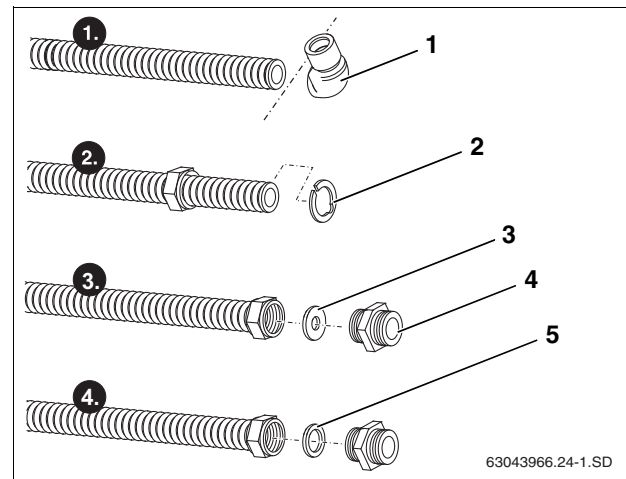

Fig. 53 Preparing the connection pipe
- Cut elbow (Fig. 53, [1]) from connection pipe using pipe cutters (Step 1).
- Separate one of the cuts of the split compression washer and bend it open. Slide over the first valley of the corrugated pipe and close it again (Fig. 53, [2]). The closed compression washer must be positioned evenly on the collar of the union nut once pulled forward.
- Place large diameter washer (Fig. 53, [3]) into the union nut in front of the cut surface of the connection pipe.
- Firmly screw double nipple (Fig. 53, [4]) into union nut, which will create a flat sealing surface on the connection pipe.
- Insert gasket (Fig. 53, [5]) and reassemble double nipple.